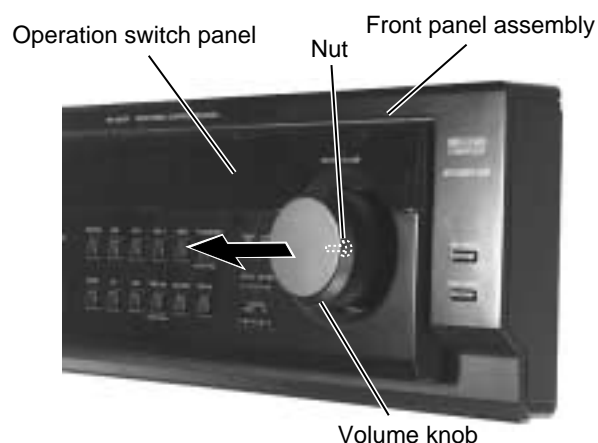

Fig.20
■ Removing the system control board / power switch board (See Fig.20 to 22)